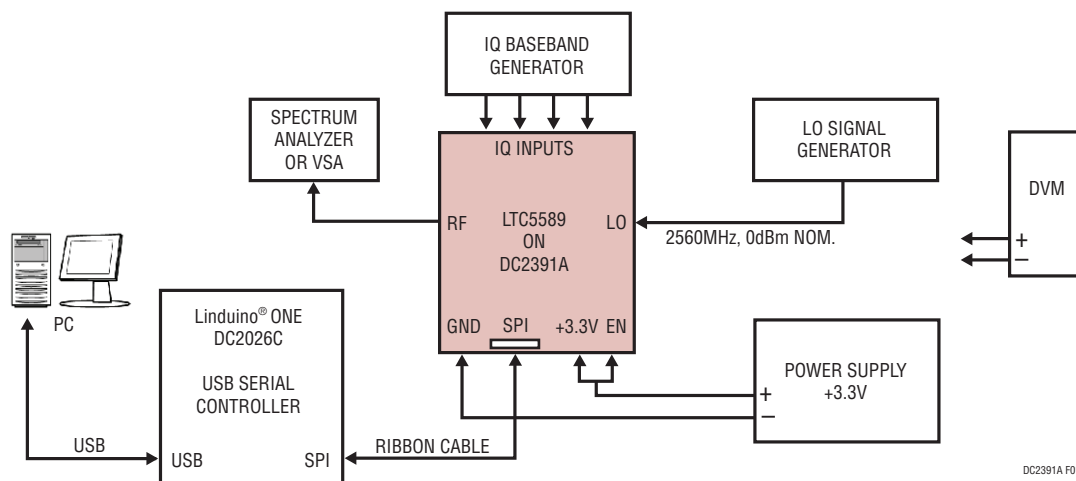

Figure 1: Test Setup for RF Performance Measurements
1. Remove the DC2391A from its protective packaging in an ESD-safe working area (see Figure 1). Make sure jumper JP1 is installed ( $V_{CTRL} = V_{CC}$ ).
4. Apply 3.3V to DC2391A's enable input (EN). The enable voltage must never exceed the LTC5589's  $V_{CC}$  supply voltage by 0.3V or drop below  $-0.3$ V.